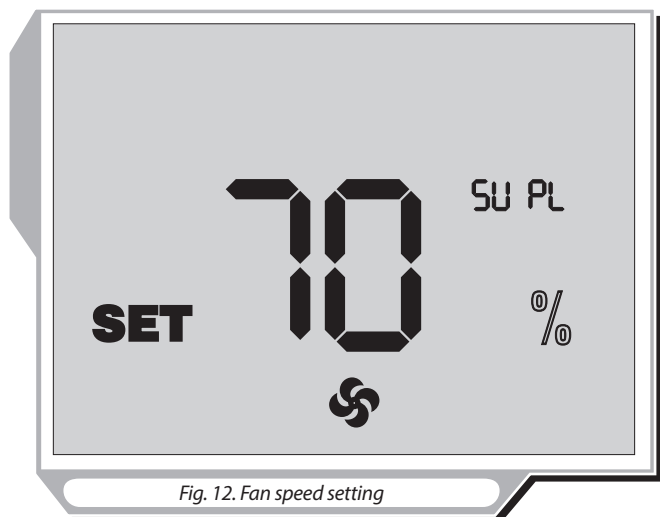

Fig. 12. Fan speed setting
- To adjust the supply fan capacity press and hold , then press  to set the fan speed up or  to set the fan speed down. Each pressing of  and  buttons increases or decreases the supply fan speed by 1%. While holding  button the display indicators show the current supply fan speed, Fig. 12.